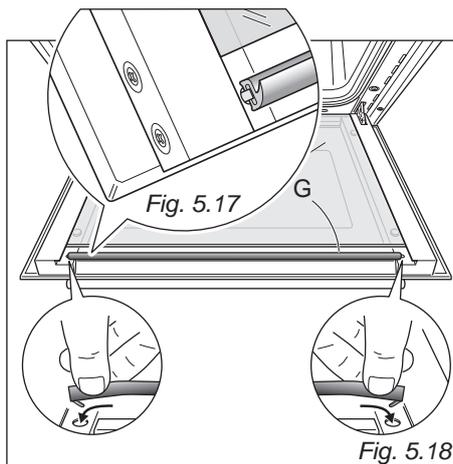

Fig. 5.18
- Reassemble the seal "G" in the correct way (fig. 5.17) by hooking the no. 2 fixing hooks in the proper holes (fig. 5.18).